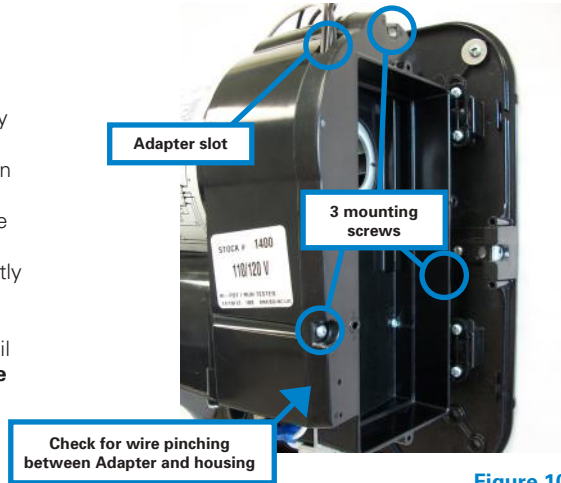

Figure 10
10. Attach the Filter Adapter (control assembly is now on inside) in the location where the Air Inlet Cover was removed, using the three screws previously removed in step 3. Make sure to route the wires through the slot in the Adapter so that they are not pinched. Also check to make sure wires are routed to clear internal boss. It may be necessary to lightly manipulate the Adapter around until it fits properly. The Adapter will not fully seat to the dryer until the screws are tightened. **(Figure 10)**